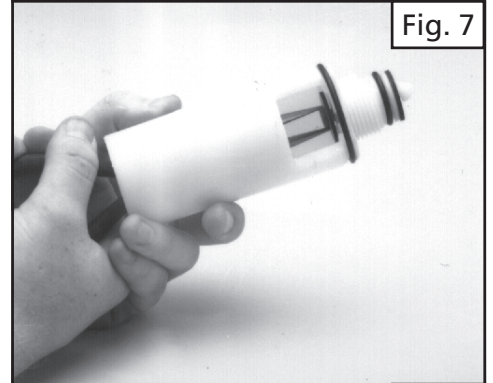

Fig. 7
7) To replace the valve plates and o-rings on the pump cylinder: remove the outer o-rings, the top valve plate and replace. The lower valve plate (inside the cylinder) is replaced by pulling out the retaining pin. Use pliers. (See Figure 7). Replace the valve plate and then push the holding pin back into place.